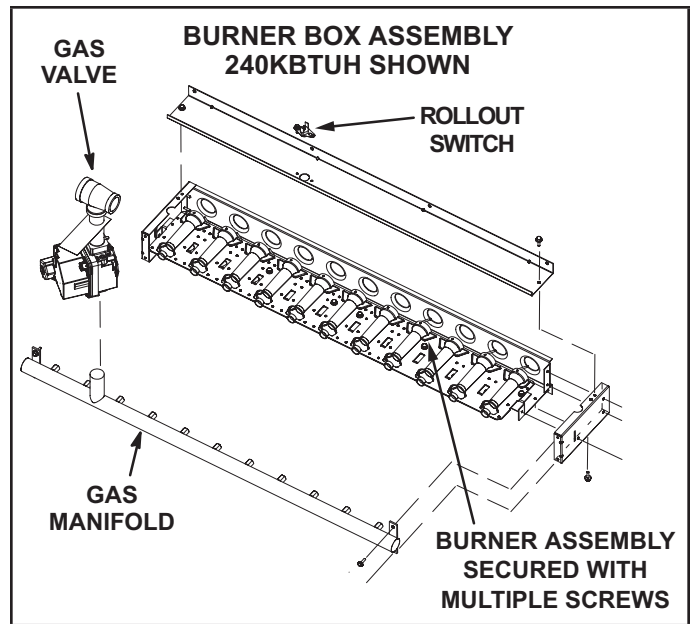

FIGURE 34
- 3 - Remove screws securing burner assembly to burner support and remove assembly. See FIGURE 34. Clean as necessary.